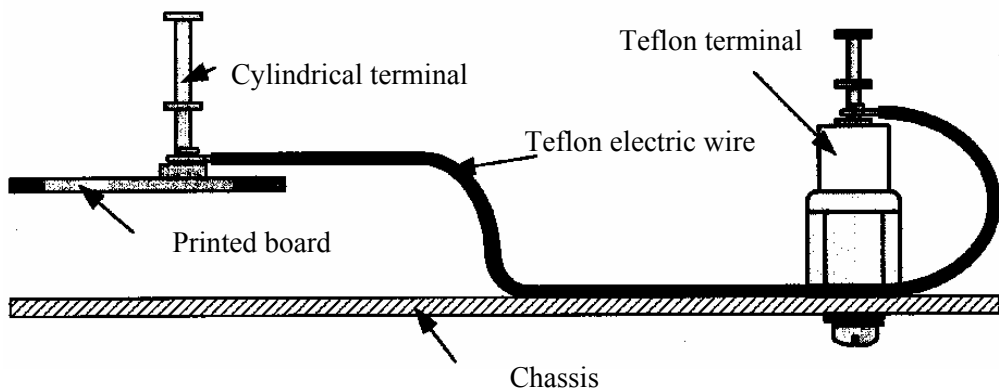

Fig. 5-6
- b. The Teflon electric wires shall be connected to the cup terminal and cylindrical terminal and shall have an appropriate amount of slack so that tensile force is not applied. Note that the height limit for the Teflon electric wires (W7–W11) shall be 35 mm or lower than the chassis surface. For the Teflon electric wires (W2–W6), the following Fig. 5-6 shall be used for reference.